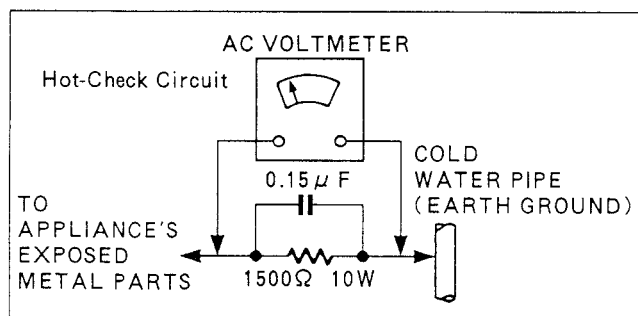

Figure 1
LEAKAGE CURRENT HOT CHECK (See Figure 1)
2. Connect a 1.5 K Ω , 10W resistor, in parallel with 0.15 μ F capacitor, between each exposed metallic part on the set and a good earth ground such as a water pipe, as shown in Figure 1.